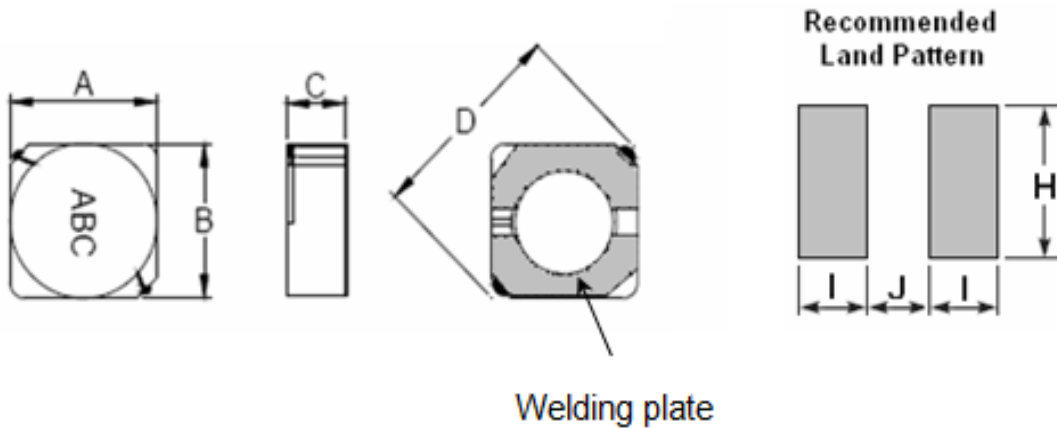

Fig. 4-1
- Dimensions and recommended PCB pattern for reflow soldering: See **Fig.4-1**, and **Table 4-1**.